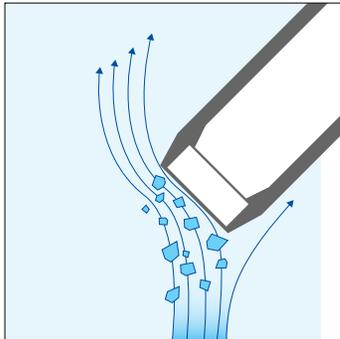

Figure 1: Ideal probe orientation—
- Orient the probe so the flow of material impinges on the probe window surface at a 30° to 60° angle (**Figure 1**).